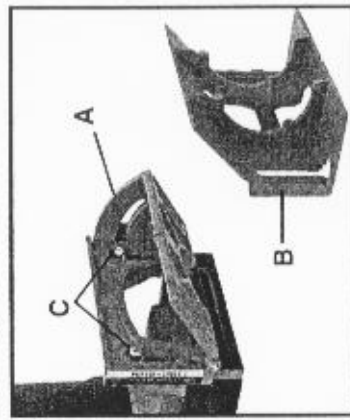
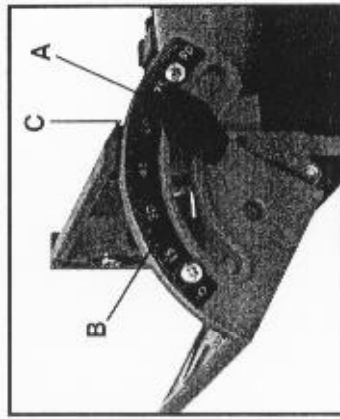

Fig. 4
Fig. 4B
The "Tilt" Fence (A) Fig. 4, can be adjusted to any angle between 0° and 90°. This enables you to cut grooves into surfaces that are at an angle to the "face" of the workpiece. When this fence is used to make corner joints at **other than 90°**: the "inside" surfaces of the joint will be aligned. When making 90° joints: either the "inside" or the "outside" surfaces can be aligned.
The "45°/90°" Fence (B) Fig. 4, has two "fixed angle" guide surfaces: one at 45°, and one at 90°. This provides "fixed" guide surfaces for the most popular Plate Joiner applications: 90° corner joints, 45° miter joints, and butt joints. The Fence can be quickly changed from 90° to 45° operation. When this fence is used to make 45° joints: the outside surfaces of the joint will be aligned. When making 90° joints: either the "inside" or the "outside" surfaces can be aligned.
Fence angle is adjusted by loosening the knob (A) Fig. 4B, and moving the fence until the desired angle on scale (B) Fig. 4, is aligned with the index point (C) Fig. 4B. Tighten the knob to secure the fence at the desired angle.
1. Use hex wrench (furnished with the Plate Joiner), to remove the two fence mounting screws (C) Fig. 4, from the Plate Joiner blade guard.
2. Use hex wrench (provided) to loosen the two fence retaining screws (C) Fig. 4, just enough to allow up and down movement of fence.
NOTE: The auxiliary fence is **NOT** used in this operation. Remove two retaining screws (C) Fig. 4, and the fence.